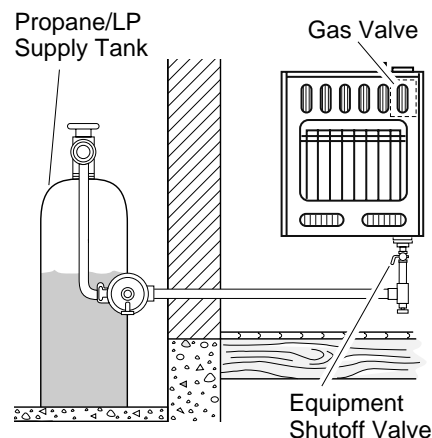

Figure 16 - Checking Gas Joints
3. Check all joints from propane/LP supply tank to equipment shutoff valve (see Figure 16). Apply mixture of liquid soap and water to gas joints. Bubbles forming show a leak.
4. Check all joints from equipment shutoff valve to thermostat gas valve (see Figure 16). Apply mixture of liquid soap and water to gas joints. Bubbles forming show a leak.